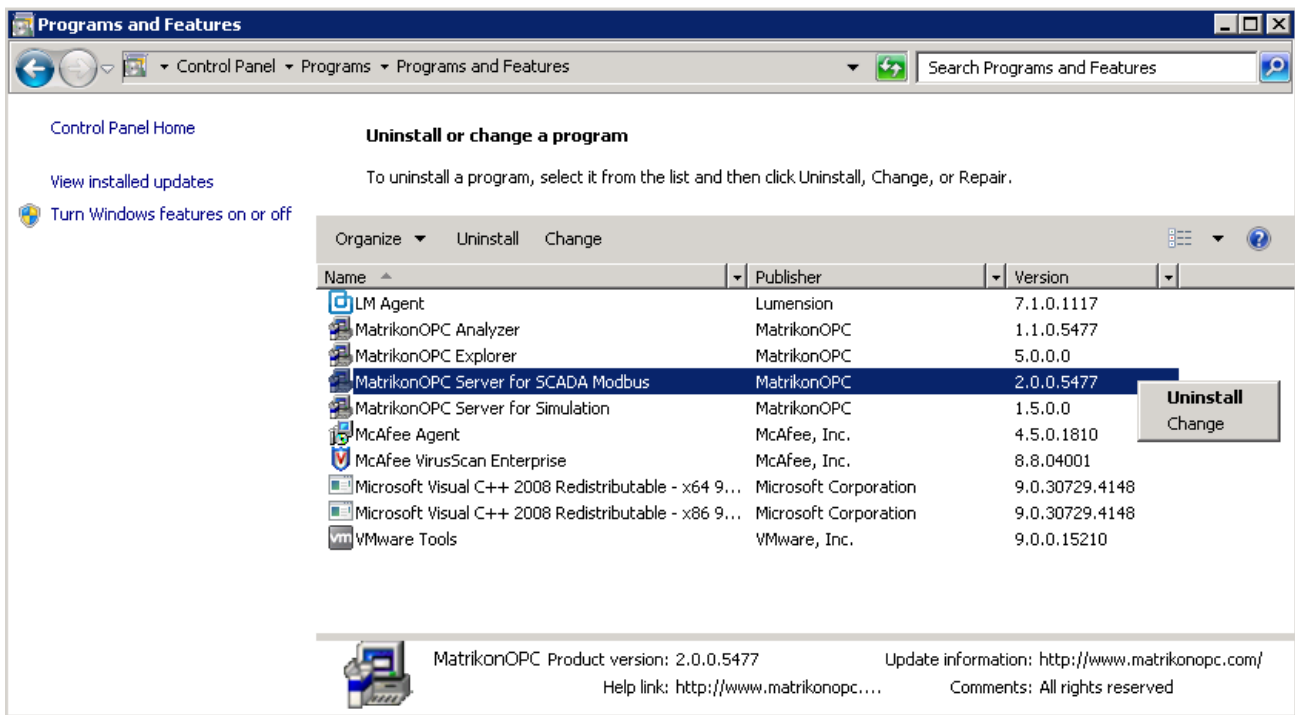

Figure 94 - Add or Remove Programs
3. The **Add or Remove Programs** window (Figure 94) is displayed.